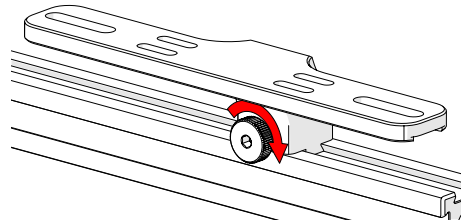

Fig. 77 - Tighten knob
2. Tighten the knob to lock the preamp bracket in place (*Fig. 77*).